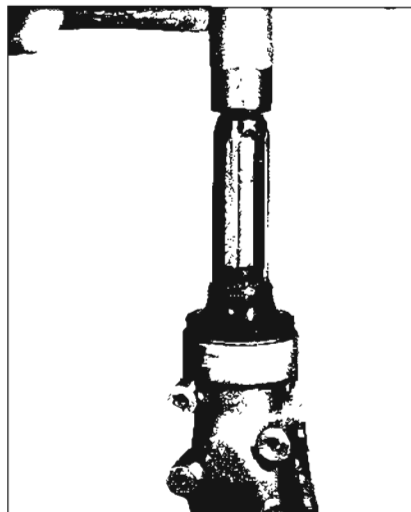

Figure 4-67—Installing Extension Oil Seal
18. Install new oil seal in rear bearing retainer, using Seal Installer J-8864. See Figure 4-67 Lightly coat seal with gear lubricant.